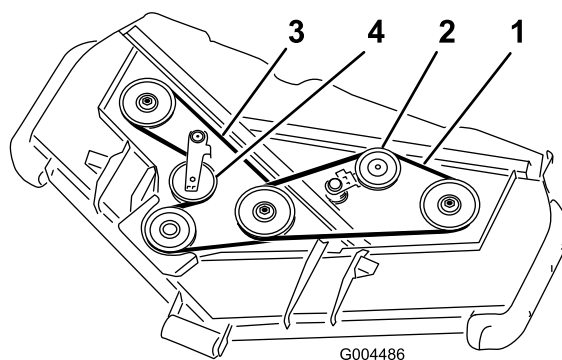

Figure 55
4. Using a breaker bar or similar tool, move the idler pulley for the bottom belt (Figure 55) away from the bottom drive belt to release the belt tension and allow the belt to be slipped off the pulleys.
5. Route a new belt around the gearbox pulley, bottom spindle pulleys, and idler pulley assembly as shown in Figure 55.
6. Route a new belt around the top spindle pulleys and idler pulley assembly as shown in Figure 55.
3. Using a breaker bar or similar tool, move the idler pulley for the top belt (Figure 55) away from the top